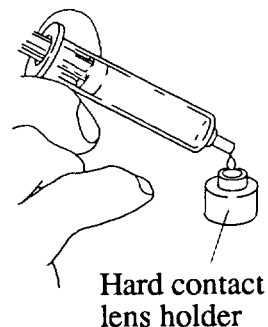

Figure 3-23
- ① Place several drops of water on the hard contact lens holder (see Figure 3-23).
- 2) Water drop (see Figure 3-23) was not enough, and this caused bubbles in the water when the lens was placed.